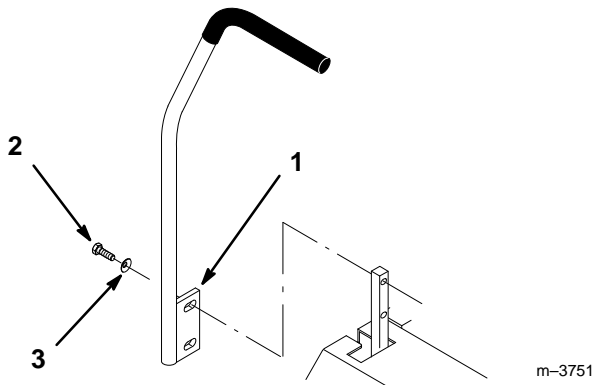

Figure 3
9. Remove the (4) 3/8–16 x 1” (26 mm) bolts and (4) 3/8 spring washers which attach the motion control levers to the control arm shafts for shipping (Fig. 3).
10. Place the levers (with the mounting plate towards the rear) on the outside of the control arm shaft and secure with (4) 3/8–16 x 1” (26 mm) bolts and (4) 3/8 spring washers (Fig. 3).
12. Align the front/rear position of the levers, with each other, in the neutral position. Loosen hardware and adjustment by sliding/tilting the lever(s) forward or backward until properly aligned(Fig. 3).